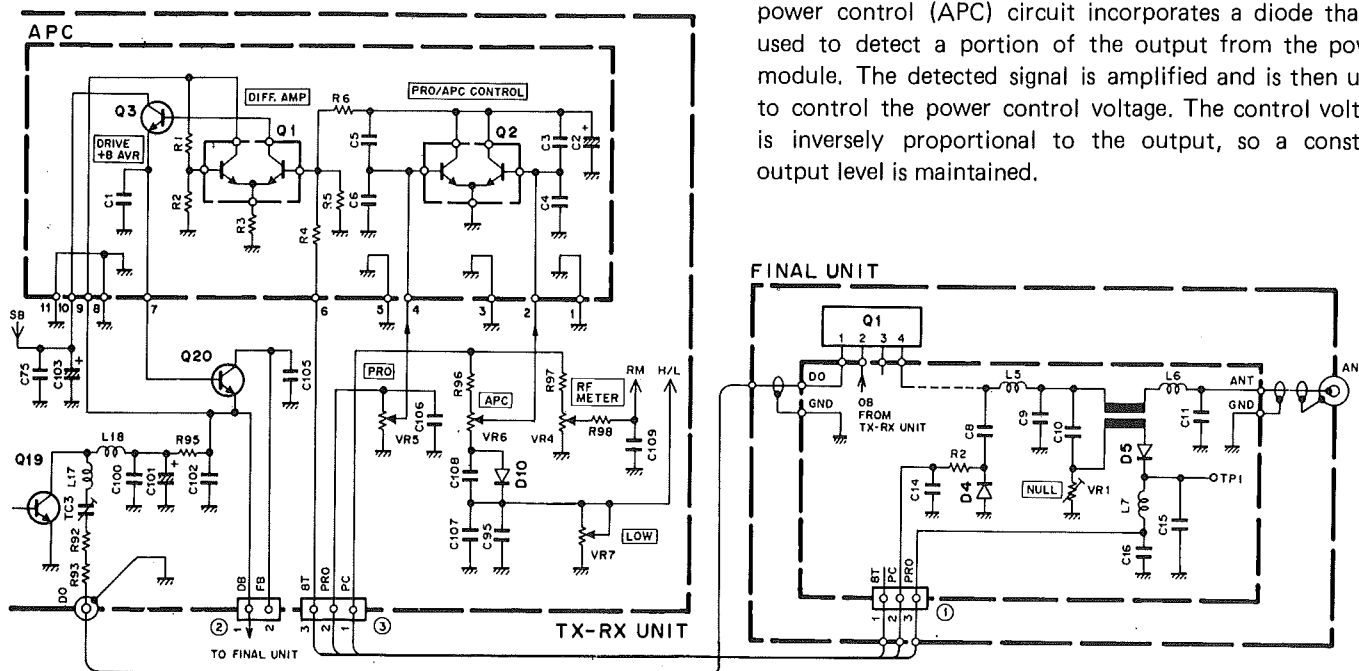

Fig. 3 APC and SWR protection circuits
**Fig. 3** shows the basic ALC (Automatic Level Control) and SWR (Standing Wave Ratio) protection circuits. The SWR protection circuit incorporates a CM coupler that detects any reflected power caused by mismatching of the antenna. After detection and amplification, this circuit acts to lower the output control voltage, which protects the power module by reducing the gain. The automatic power control (APC) circuit incorporates a diode that is used to detect a portion of the output from the power module. The detected signal is amplified and is then used to control the power control voltage. The control voltage is inversely proportional to the output, so a constant output level is maintained.